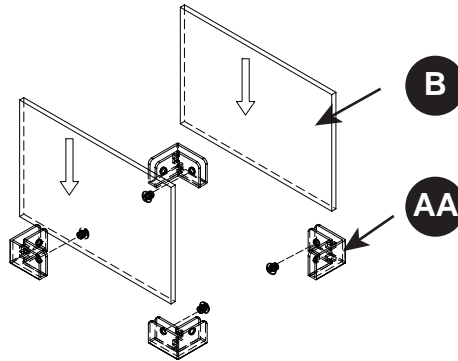

Figure 3
4. Insert 2 pcs glass (B) into the groove of the clip (AA), then tighten the bolts using Hex screwdriver (BB) (see Figure 3).